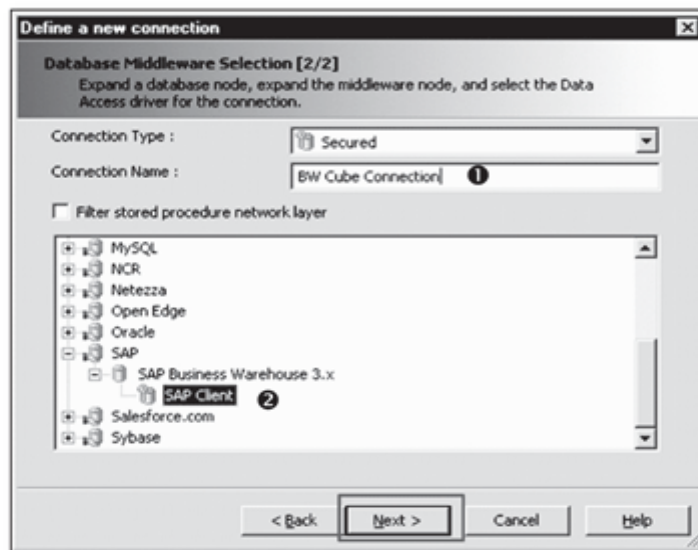

Figure 13.6 Select Data Access Driver
4. To define a new connection, enter the connection name "BW Cube Connection" (1 of Figure 13.6), and then browse through the list of available data access drivers (2). Select SAP • SAP BUSINESS WAREHOUSE 3.X • SAP CLIENT, and move to the next screen by clicking the Next button.